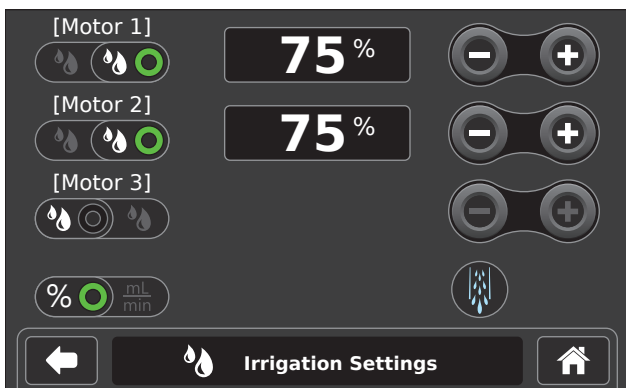

Figure 18 – Irrigation Settings Screen
2. Adjust settings as necessary (Figure 18).